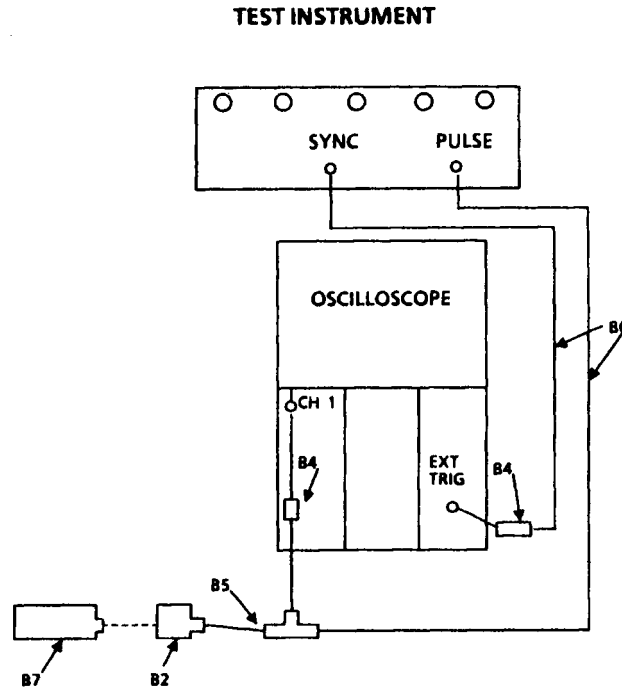

Figure 1. Amplitude-equipment setup.
- (1) Connect equipment as shown in figure 1.